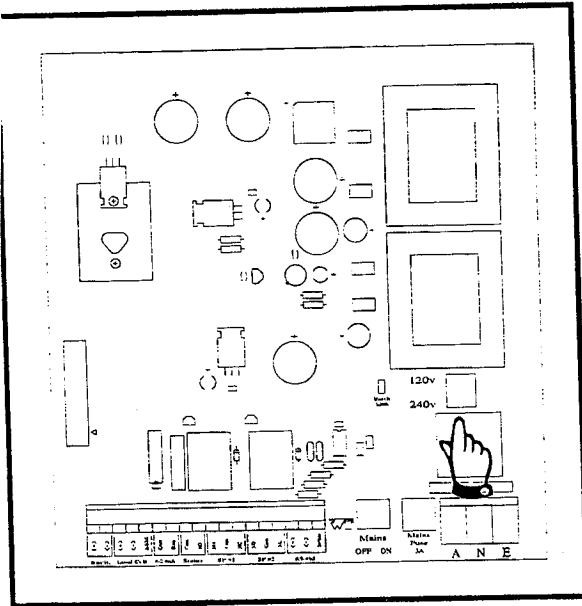

Figure 2-5
- (a) Verify local mains supply voltage (i.e. 120Vac or 240Vac) and set voltage selector switch to reflect this voltage. See Figure 2-5 opposite.
- (c) Connect power supply cable to the terminal block, TB1, in accordance with the legends located immediately below. Terminal block TB1 is located directly below the mains voltage selector switch shown in Figure 2-5.